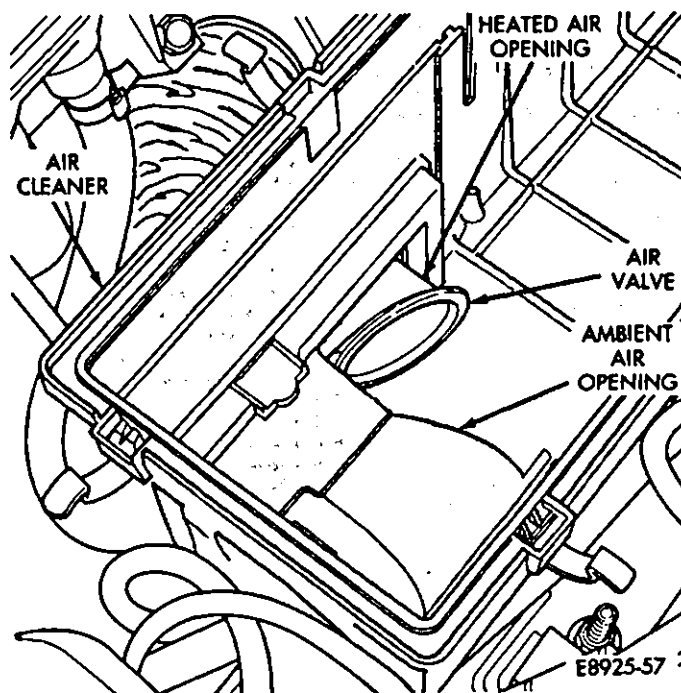

Fig. 1—Air Cleaner In Heat Off Position
(1) With the engine not operating, observe the ambient air inlet duct at the air cleaner and observe the position of the air valve. The air valve should be fully open to incoming ambient air (heat OFF position—Fig. 1).